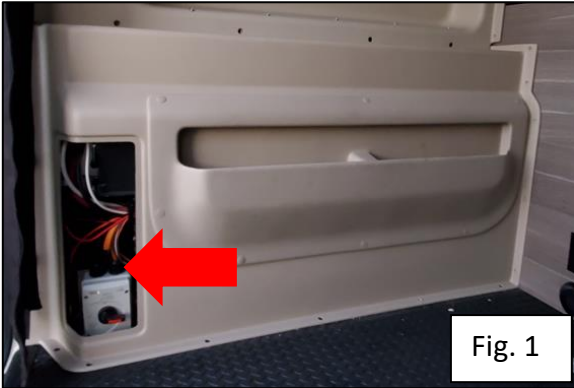

Fig. 1
A. Sprinter SY – Remove access cover located at the driver side rear on the lower ABS panel access panel (Figure 1) to provide access to the battery equipment shelf (Figure 2).